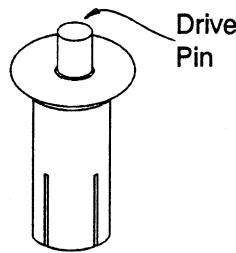

Fig. 14
- 4.6.3 Attach the new lining to the backing plate with new screws and locknuts or drive pin rivets (See Figure 14), as applicable. Work from the center of the friction lining out to the ends. The rivets are installed by driving the pin flush with the head.